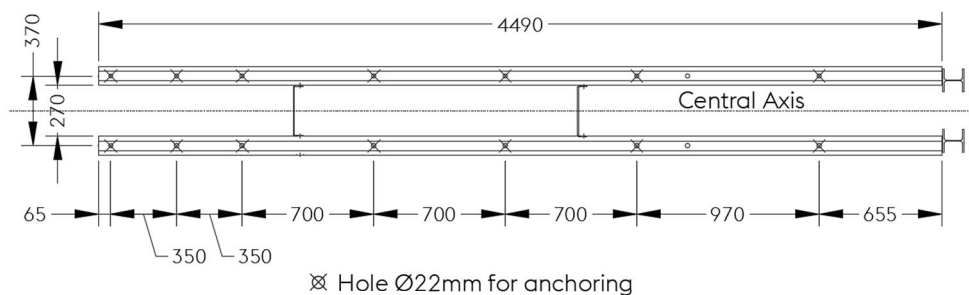

Figure 9
*Please note: The best method has been to first prepare the two anchoring holes for each end of the rails in accordance with Figure 9 and temporarily affix the rails with four TSM A22 anchoring screws inserted through the rails and screwed halfway into the substrate.*
The positions of the seven holes with a diameter of 22 mm for each rail with a hole depth of  $163 \pm 3$  mm are shown in Figure 9.
Both rails are affixed to the asphalt anchors using 7 M16x35 FK 4.6 hexagon bolts and 40x18x4 washers (see Figure 9).